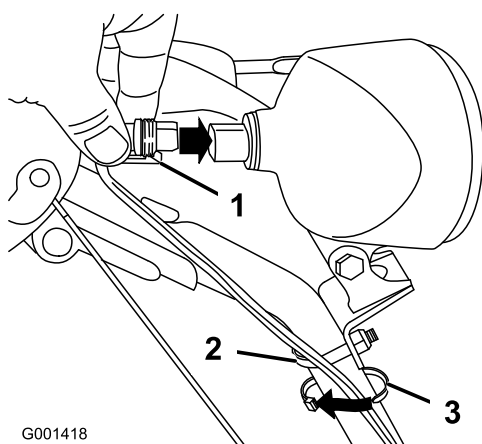

Figure 17
Note: Ensure that the plastic clip on the wire connector is on the bottom (Figure 17).
2. Secure a cable tie (from the loose parts bag) around the wire and the handle about an inch (2.5 cm) below the U-bolt (Figure 17).
1. Insert the wire connector on the loose end of the wire straight into the back of the headlight until it is securely in place (Figure 17).